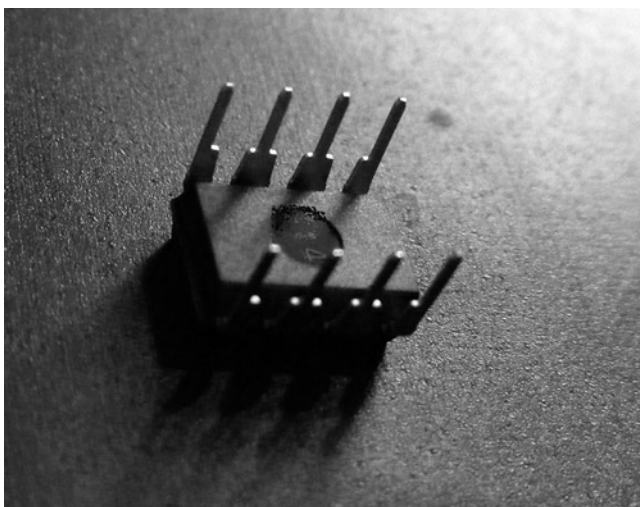

Figure 3-2. An eight-pin DIP device
- The AVR depicted is an entry-level ATTINY13 device which comes in a small eight-pin DIP (Dual Inline Package) as shown in Figure 3-2.
You will see that this circuit shown in Figure 3-2 also uses seven small components (including the +9 V battery) to flash an LED on and off at a speed determined by the components connected to pins 6 and 7.